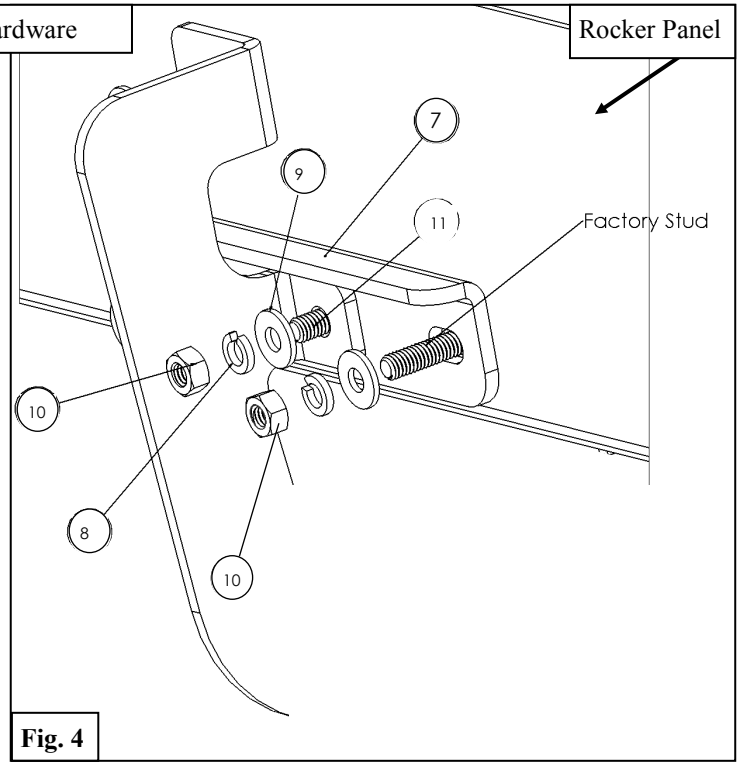

**Fig. 2**
**Note A:** The rear mounting location is shown in **Figure 2**.
See **Figure 2**.